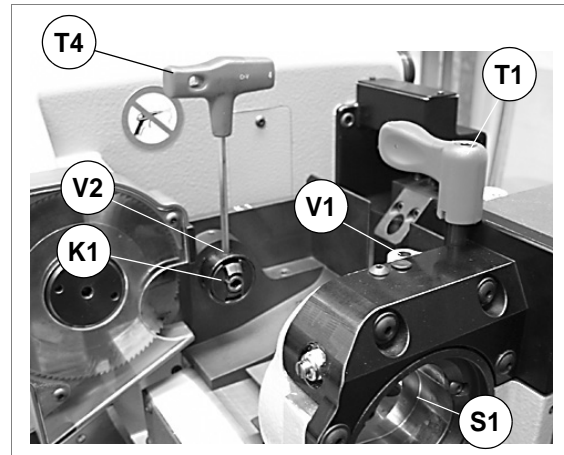

Fig. 76
- 2) Orient the standard tailstock (K1) for male keys in the special seat on the support, using the screw (V2) to direct it upwards (fig. 76).
- 3) Take the 'T' wrench (T4) from its seat and fit into the screw (V1) (fig. 76), then loosen until the jaws are fully open. At the end of the operation do not remove the 'T' wrench from the screw (V1).